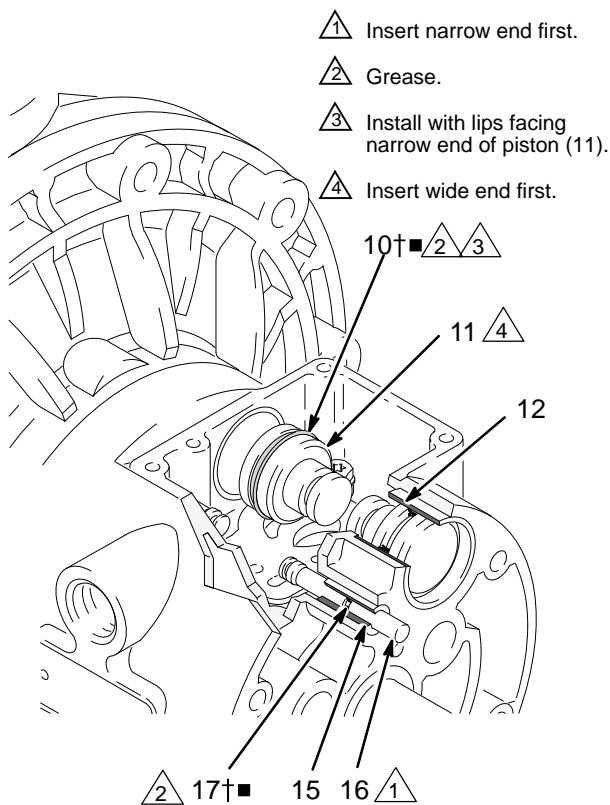

FIG. 8
4. Pull the two actuator pistons (11) out of the bearings (12). Remove the u-cup packings (10) from the pistons. Pull the pilot pins (16) out of the bearings (15). Remove the o-rings (17) from the pilot pins. See FIG. 8.
6. Inspect the bearings (12, 15) in place. See FIG. 8. The bearings are tapered and, if damaged, must be removed from the outside. This requires disassembly of the fluid section. See page 22.
4. Install an o-ring (17) on each pilot pin (16). Grease the pins and o-rings. Insert the pins into the bearings (15), **narrow** end first. See FIG. 8.
5. Install a u-cup packing (10) on each actuator piston (11), so the lips of the packings face the **narrow** end of the pistons. See FIG. 8.
6. Lubricate the u-cup packings (10) and actuator pistons (11). Insert the actuator pistons in the bearings (12), **wide** end first. Leave the narrow end of the pistons exposed. See FIG. 8.